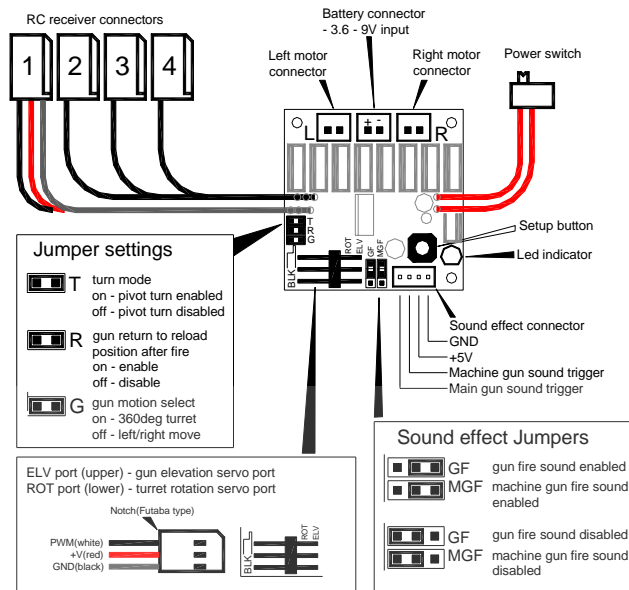

Fig.1 - MTC-1 Mini Tank Controller Layout
- 13) Sound effect jumpers – GF(gun fire) and MGF(machine gun fire) are jumpers controlling the two sound effects. In the enabled position (see Fig.1), sound effects will be triggered by stick motions. See control methods for details. Tank will recoil during gun fire.